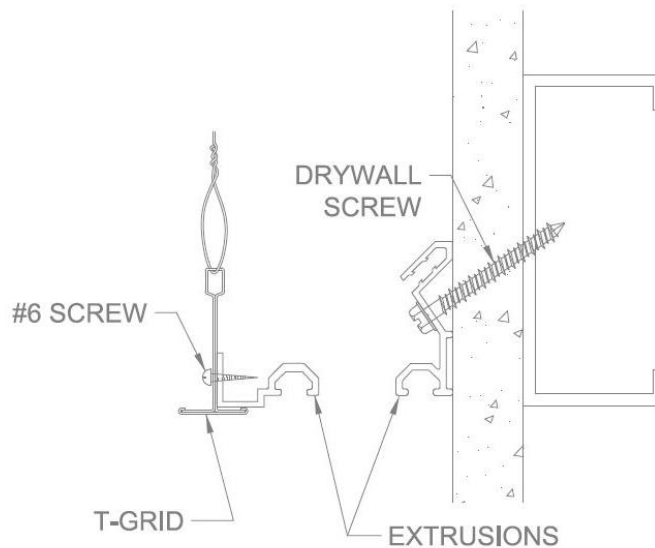

FIGURE 1
1. Position aluminum extrusion on the inside lip of the “T” grid as shown and attach with #6 self-drilling screws (included) 18” on center. On the wall side, position the corner extrusion so the extrusion channels are level with each other. Fasten with anchors (by installer) into the structural support. **See Figure 1.**